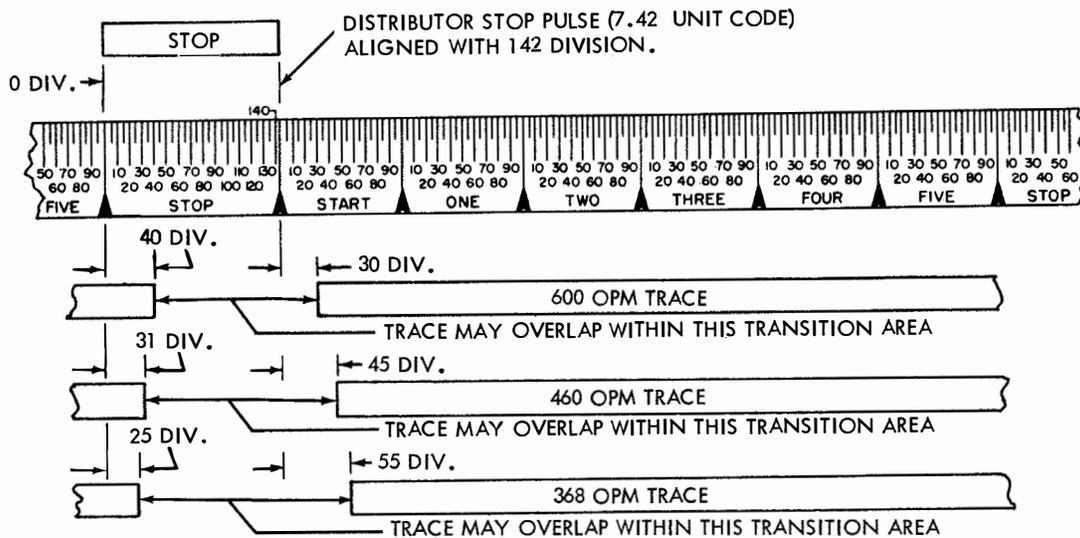

Figure 4 - Pulse Length Requirements for Storing Switch Contacts No. 1 Through No. 5
(1) With alternate R and Y tape used, the beginning and end of each trace shall occur as follows (see Figure 4):